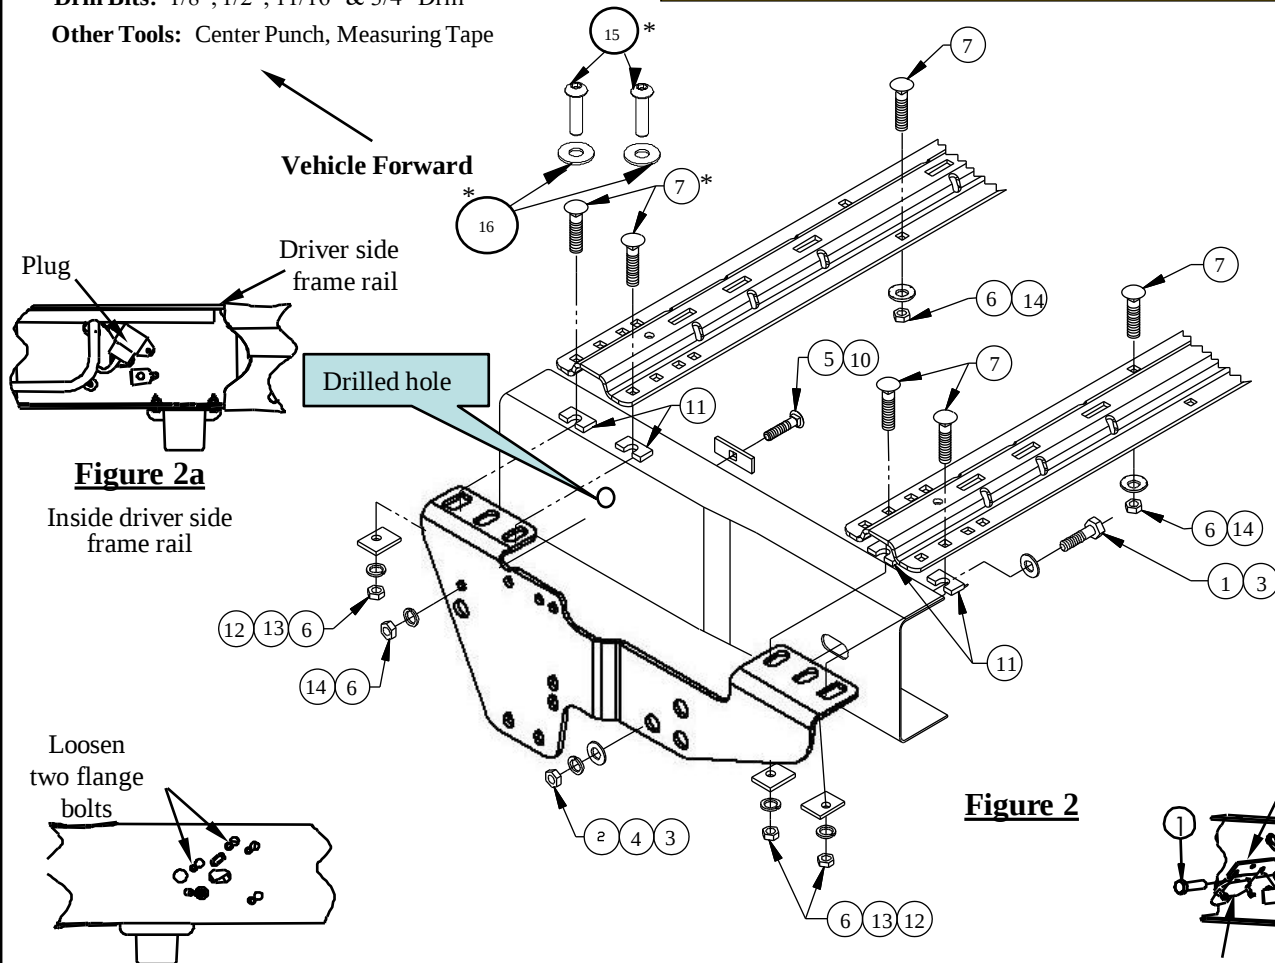

Figure 2a
2. **On 2007 and newer “New Body Style” Pickups with OE Trailer Brake Controller:** Relocate the electrical plug that is located on the inside of the driver’s side frame rail over the rear wheel (Figure 2a). The plug may be removed from the frame by loosening the two bolts on the outside of the frame and pushing the bolt heads through the key hole slots, as shown in Figure 2b. Attach the plug to the angle bracket supplied with the mounting kit. The bracket will be attached to the inside of the frame with a 3/4” bolt at a later installation step.